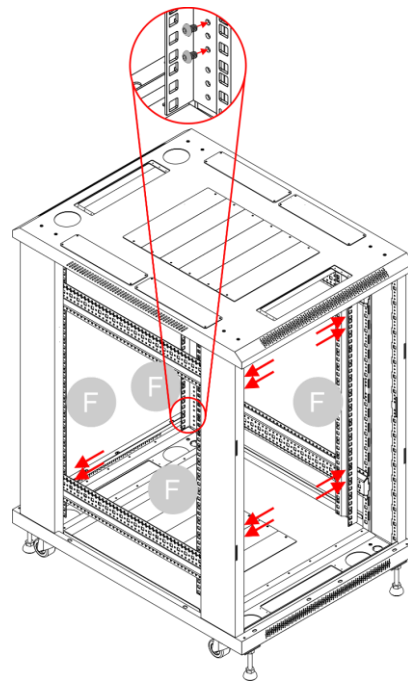

Fig. 32
- 16) Attach the **vertical brackets (F)** to the **horizontal brackets (G)**. Use 2 **screws (N)** per corner on the 4 top corners of the cabinet and 2 **screws (N)** per corner on the 4 bottom corners of the cabinet, as shown in Fig. 32.